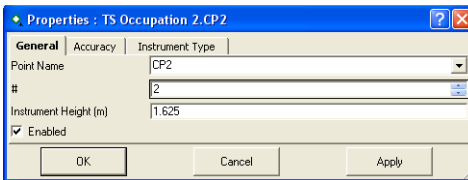

Figure 5-115. General Properties
- View or edit *General* tab fields (Figure 5-115 on page 5-80).